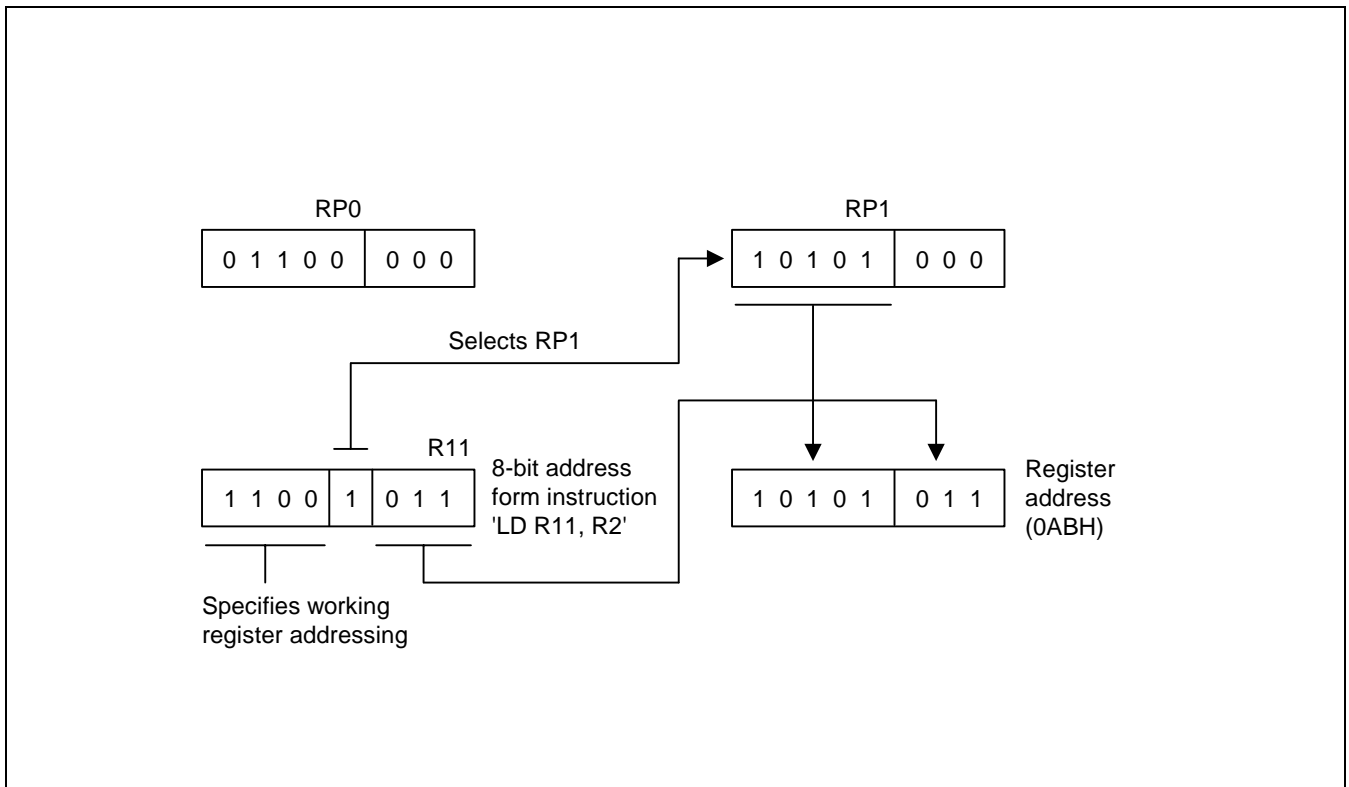

Figure 2-15. 8-Bit Working Register Addressing Example
Return addresses for procedure calls, interrupts, and data are stored on the stack. The contents of the PC are saved to stack by a CALL instruction and restored by the RET instruction. When an interrupt occurs, the contents of the PC and the FLAGS registers are pushed to the stack. The IRET instruction then pops these values back to their original locations. The stack address value is always decreased by one before a push operation and increased by one *after* a pop operation. The stack pointer (SP) always points to the stack frame stored on the top of the stack, as shown in Figure 2-15.